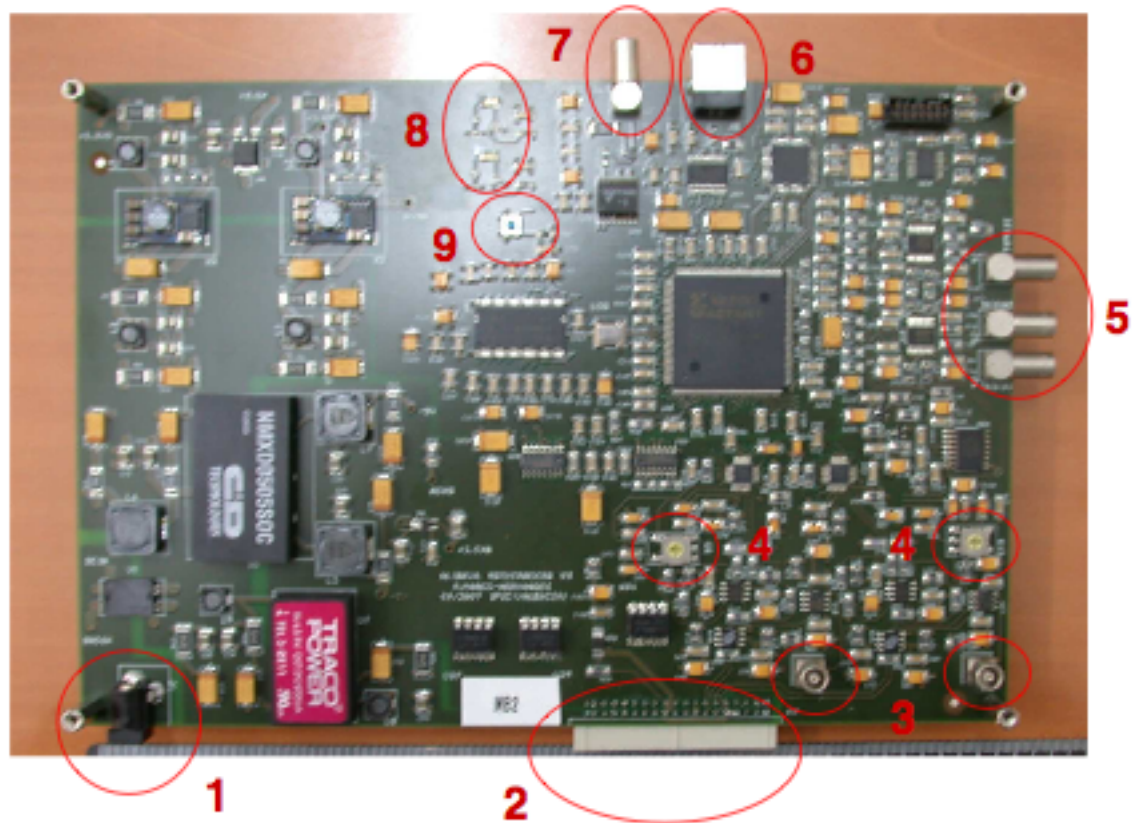

Figure 2. Connectors, switches and LEDs of the ALIBAVA motherboard.
1. Connect the daughter board to the mother board (item 2 of Figure 2) by means of the flat cable (the IDC connectors have a defined position both in the daughter board and the mother board).
2. Power on the system by means of connecting the AC/DC adapter to the motherboard power connector (item 1 of Figure 2). The red and the green LEDs of the motherboard (item 8 of Figure 2) are switched on.
3. Connect the USB cable to a USB port on the computer where the software is installed and to the USB connector of the motherboard (item 6 of Figure 2).
4. Push the reset button (item 9 of Figure 2) of the motherboard to initialize the system.
5. Launch the software following the software documentation. Now the hardware has been synchronized with the software and the red LED of the motherboard will be switched off (item 8 of Figure 2).
the LEMO connector next to the USB connector (item 7 of Figure 2) for exciting a pulse generator which will drive the laser. The name of this output (TRIG OUT) is printed on the motherboard next to the corresponding connector.
For this setup the motherboard has three trigger inputs which use three LEMO connectors (item 5 of the figure 2). The name of each trigger input is printed on the motherboard next to the corresponding connector.
There are two analogue outputs at the motherboard in order to probe the analogue output signal of each Beetle chip before they are digitized. These output signals use the two vertical LEMO connectors of the motherboard (item 3 of the Figure 2). These outputs must be connected to the 50 Ω input of an oscilloscope. A 50 Ω coaxial cable must be used for these connections.
There are two rotary switches of three positions on the motherboard (item 4 of Figure 2) to modify the ADC input range for each Beetle chip. The position 2 corresponds to an input range of ± 512 mV (with a resolution of 1 mV). The position 3 corresponds to an input range of 1024 mV (with a resolution of 1 mV) only for positive signals. The position 1 corresponds to a input range of -1024 mV (with a resolution of 1 mV) only for negative signals.